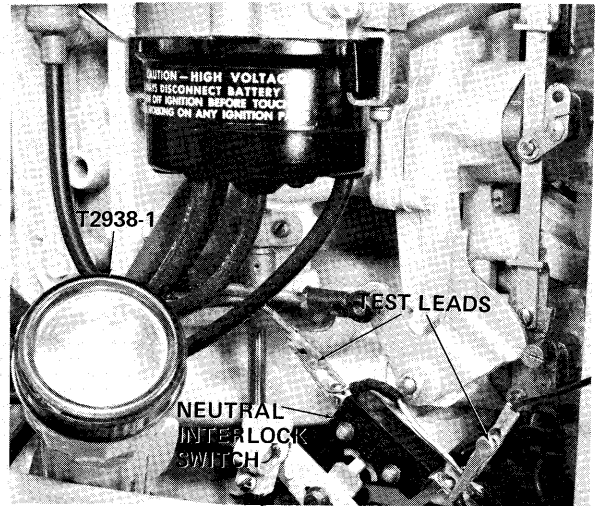

Figure 11A—Connection of Test Light Lead Wires
- C. Connect leads of test light (Special Tool T2938-1) to neutral interlock switch as shown in figure 11A.